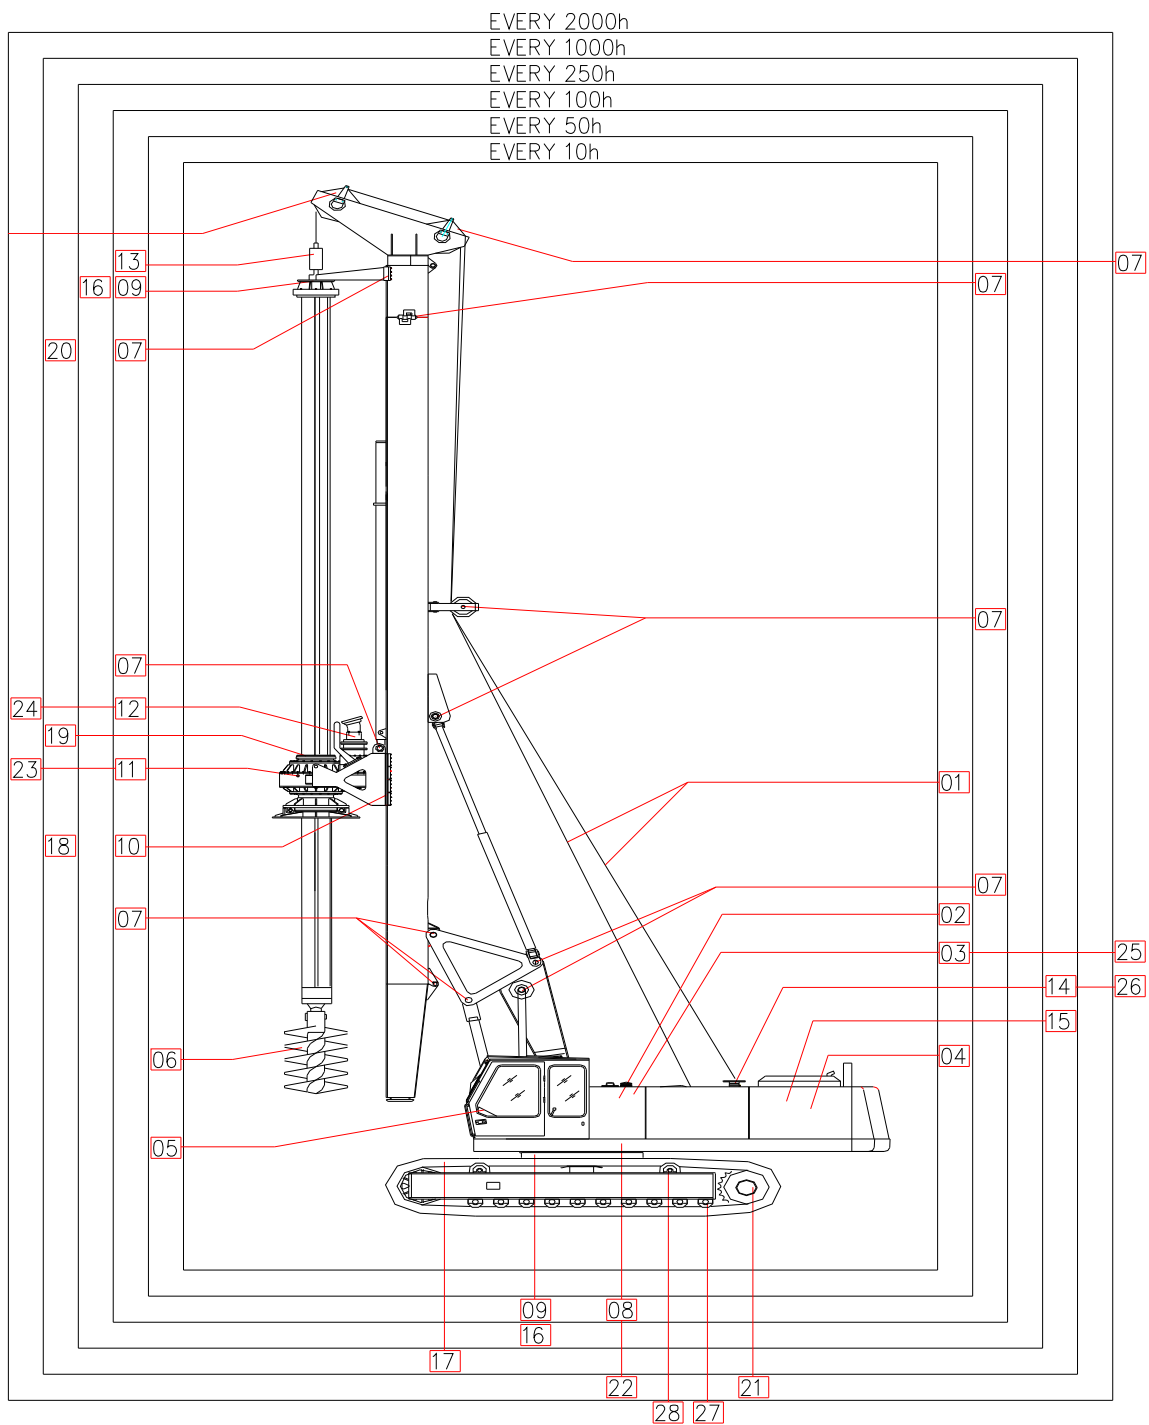

Fig. 30
- ⑥ check battery;
- ① change hydraulic oil (1st oil change after 500 working hours)
- ① clean drill rig, keep traveling components clean;
- ② Grease hinges, guide;
- ③ drain coolant, take battery off;
- ④ Put drill rig in a dry place and cover with tarp;
- ⑤ Run drill rig on a monthly basis;
- 8) Maintenance Chart(Fig.30)